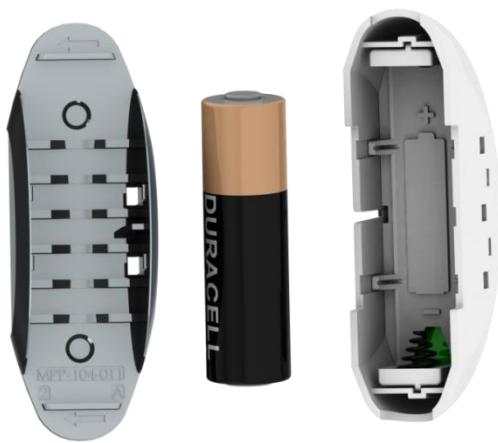

Figure 87: Inserting a Battery into the Transmitter Unit
8. The down-counter provides a time-frame of three (3) minutes within which the battery should be installed, as demonstrated in Figure 87 below (the **+** pole as marked within the device body), to power-up the Magnetic Sensor.